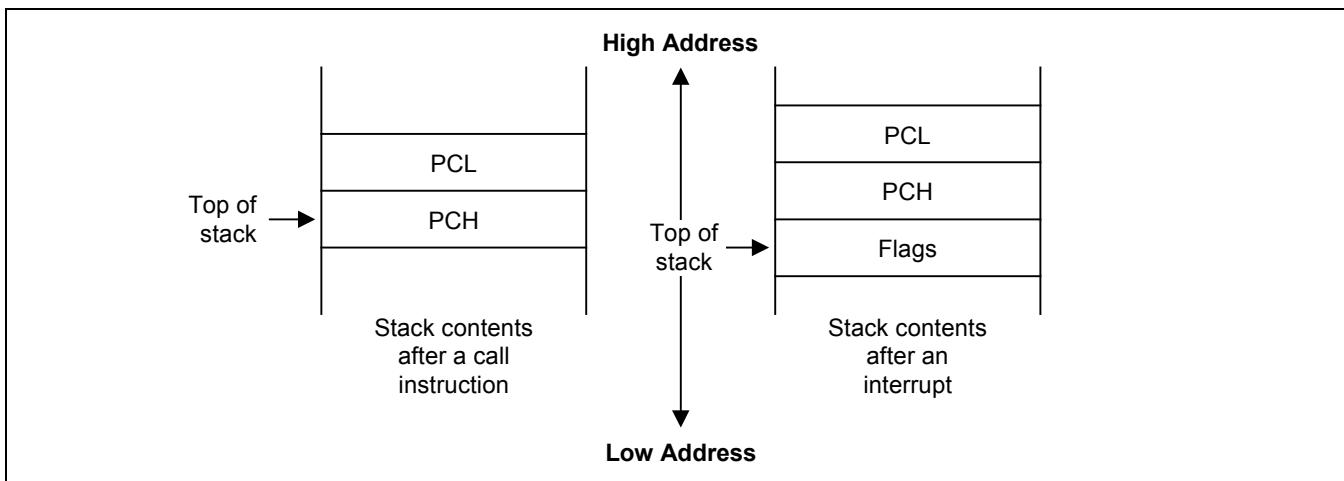

Figure 2-15. Stack Operations
Return addresses for procedure calls, interrupts, and data are stored on the stack. The contents of the PC are saved to stack by a CALL instruction and restored by the RET instruction. When an interrupt occurs, the contents of the PC and the FLAGS registers are pushed to the stack. The IRET instruction then pops these values back to their original locations. The stack address value is always decreased by one before a push operation and increased by one *after* a pop operation. The stack pointer (SP) always points to the stack frame stored on the top of the stack, as shown in Figure 2-15.